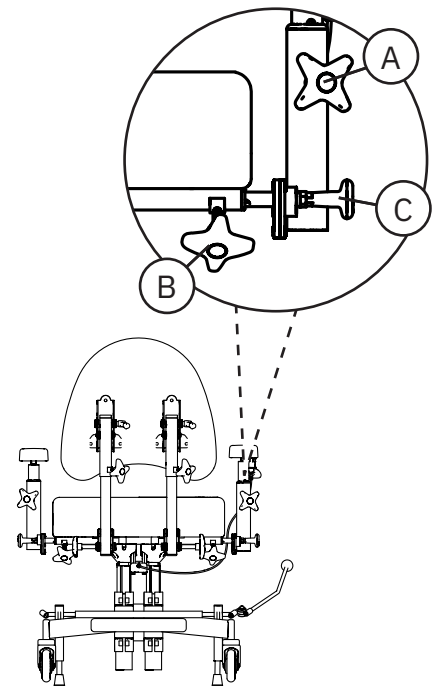

Figure 5.13. Foldable armrests.
Foldable armrests are adjustable in height (A), width (B) and can be folded backwards (C), see Figure 5.13.